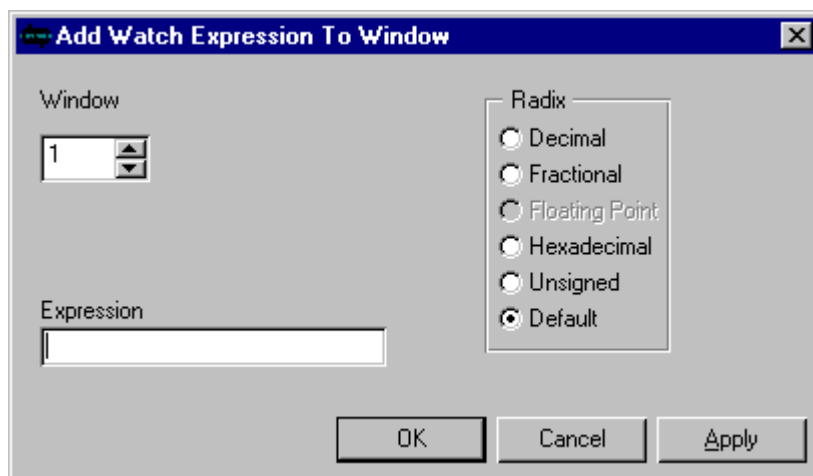

Figure 10-2. Displaying a Value in a Watch List
1. From the **Windows** menu choose **Watch**. The dialog box in Figure 10-2 appears.